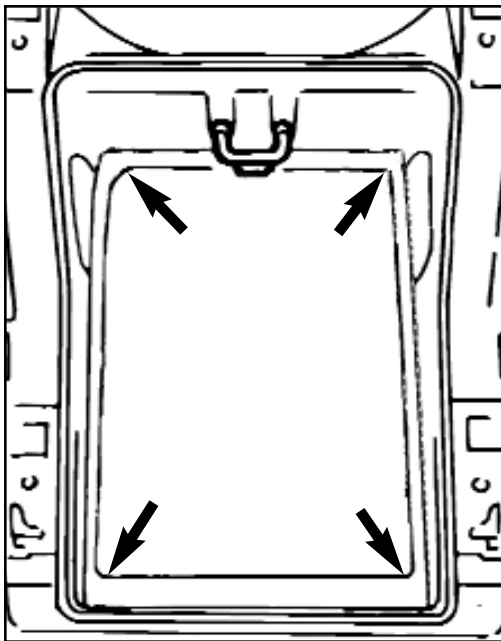

Fig. 1
3. Apply a thin layer of the provided K&N Sealing Grease in the air box base. (Fig. 1)